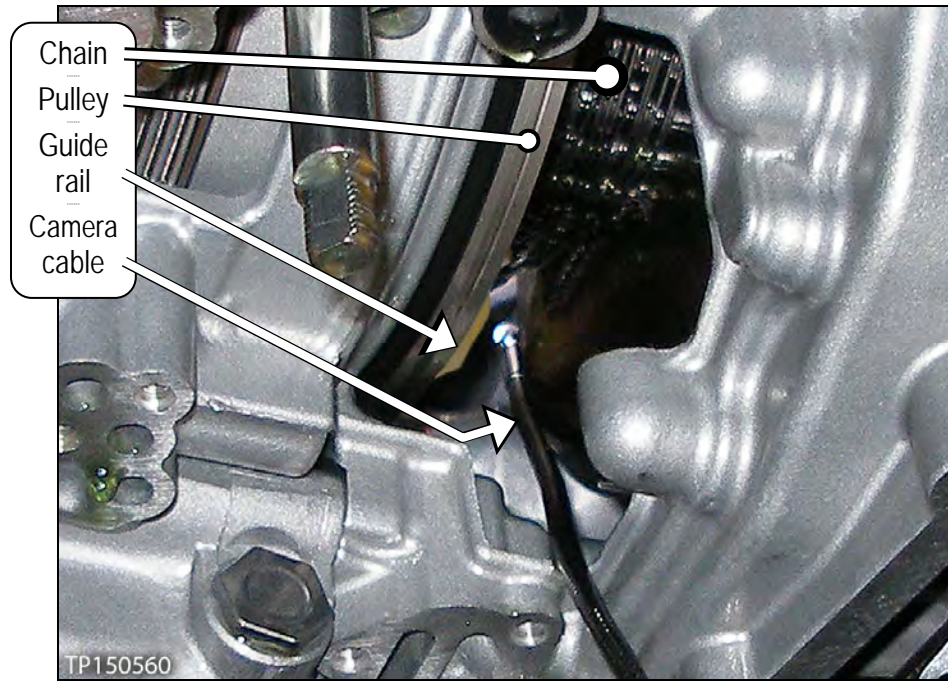

Figure 7
- Figure 7 shows where to insert the camera lens on the driver side of the chain.